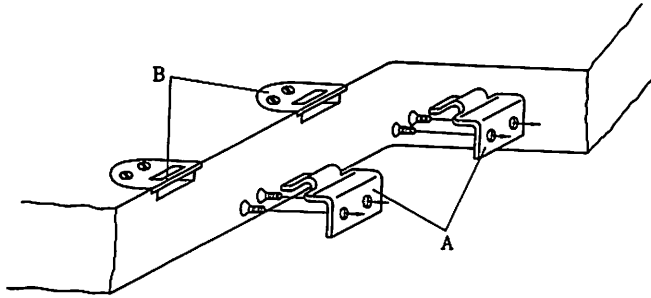
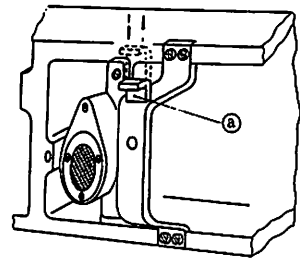

Fig. 6
Fig. 7
Attach two L shape hinges (A, Fig.6) to bed side and hook them to semi-circle hinges (B), then, push the support plate (a, Fig.7) downward as far as it will go and set the machine on the table.
Caution: When putting the machine on other places than table, pull up the support plate (a, Fig.7) so as to keep the balance of the machine.